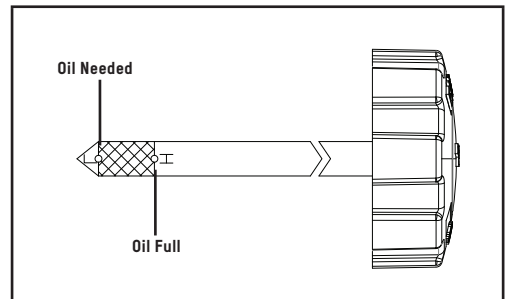

Figure 18B
3. Insert the oil cap/dipstick into the oil filler neck but do not screw it in, then remove it to check the oil level (Fig. 18B).
4. If the oil level is near or below the lower limit mark on the dipstick, remove the oil cap/dipstick, and fill with the recommended oil to the upper limit mark. Do not overfill (Fig. 18B).